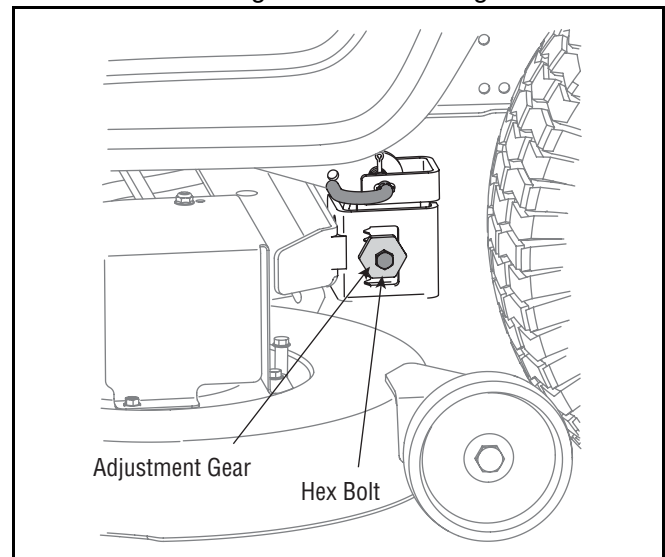

Figure 10
- Loosen, but do NOT remove, the hex cap screw on the left deck hanger bracket. See Figure 10.